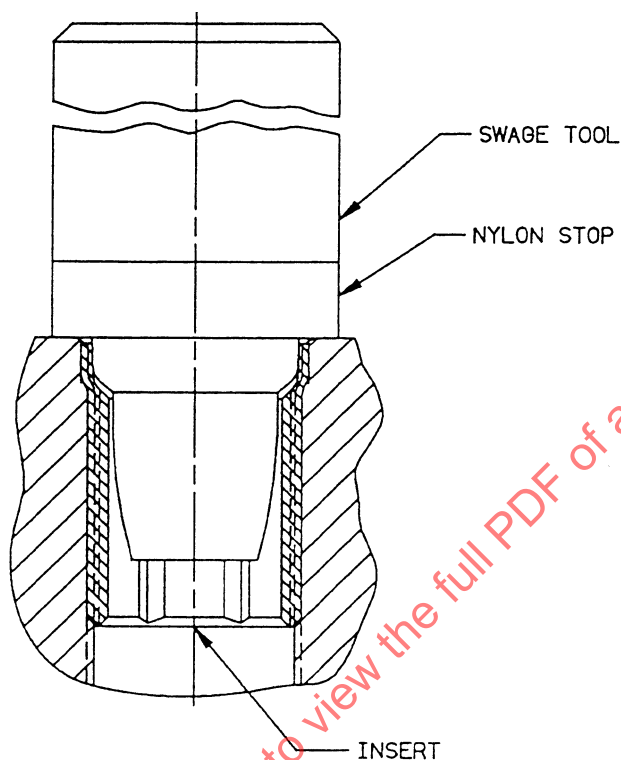

FIGURE 2
- 5.3 Position applicable swage tool into insert and apply a downward force sufficient to bottom the nylon stop against the parent material as shown in Figure 2. The insert should now be correctly swaged and locked.